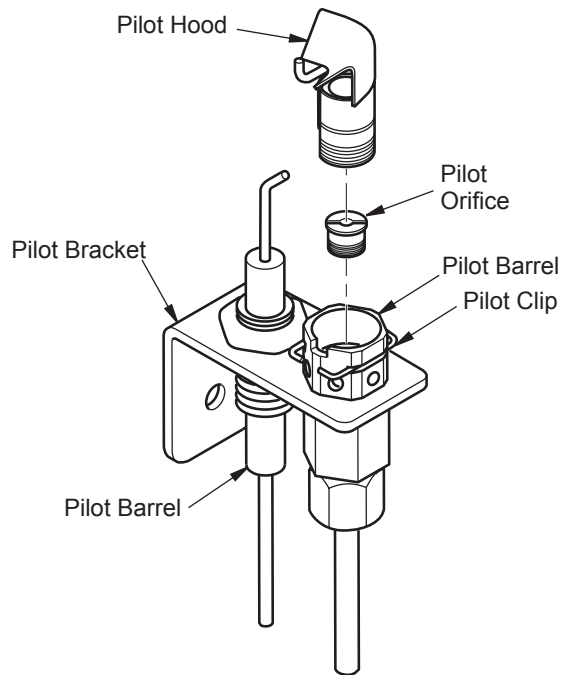

Figure 8 - Converting Pilot Orifice
1. Remove pilot hood from barrel using tweezers or a pair of needle nose pliers to open clip (see Figure 8).